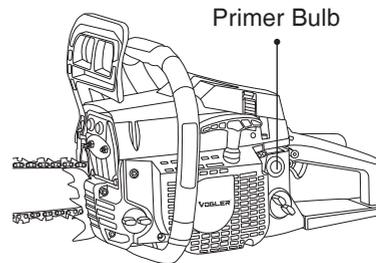

Fig. 8
- Fully press and release the oil feeder 10-5 times, slowly (Fig. 8). Fuel should become visible in the primer bulb. If no fuel is visible, continue pressing and releasing the bulb until it appears.